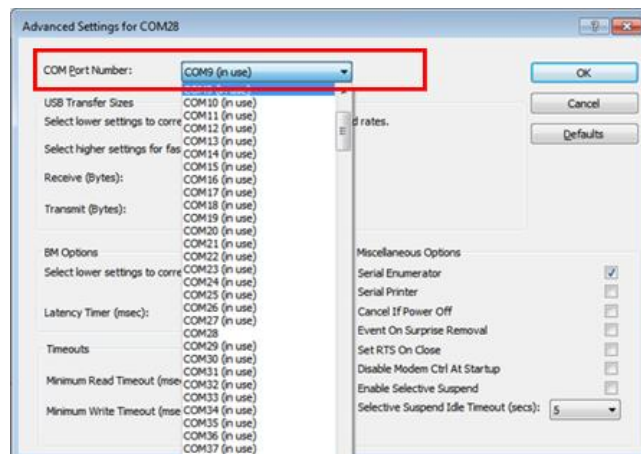

Fig.3.38
8)Select the COM Port Number 'COM11', and click 'OK' (Fig. 3-38), the communication port modification is completed.